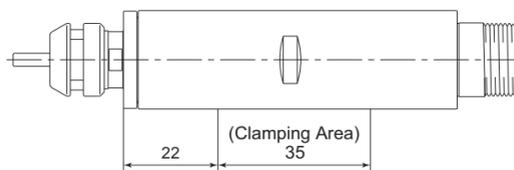

Fig. 6
- When mounting the spindle, refer to the Clamping Area etched on the spindle. (Fig. 6)